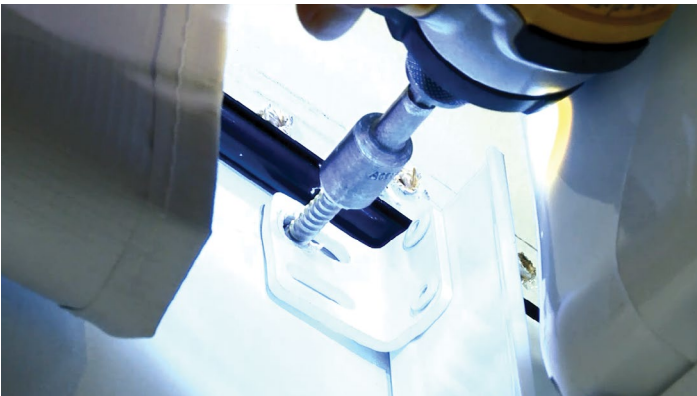

Fig.10
16. Secure the upper section of the drive side mount arm to the unit with 2 of the provided #14 x 1 ¼" screws (**Fig.10**).